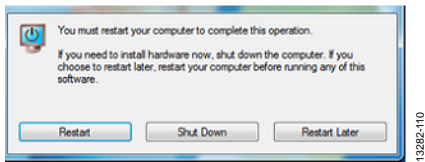

Figure 10. Restarting the PC
- Before using the evaluation board, restart the PC (see Figure 10).